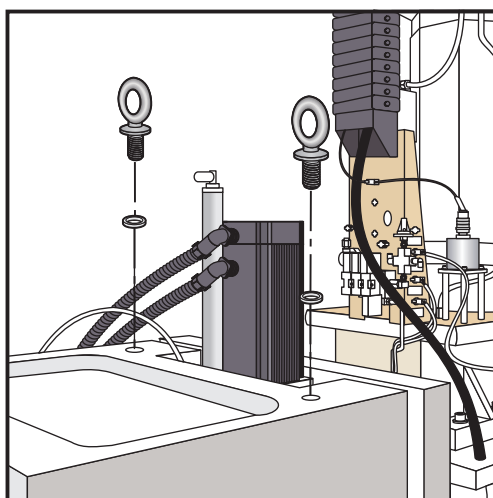

Fig. 12.26-8 VF-5 eyebolt locations on top of column.
2. Install (2) 5/8 x 1 x 1 1/16" eyebolts and (2) 3/4" hard washers to the column as shown in Figure 12.26-8. Tighten securely.